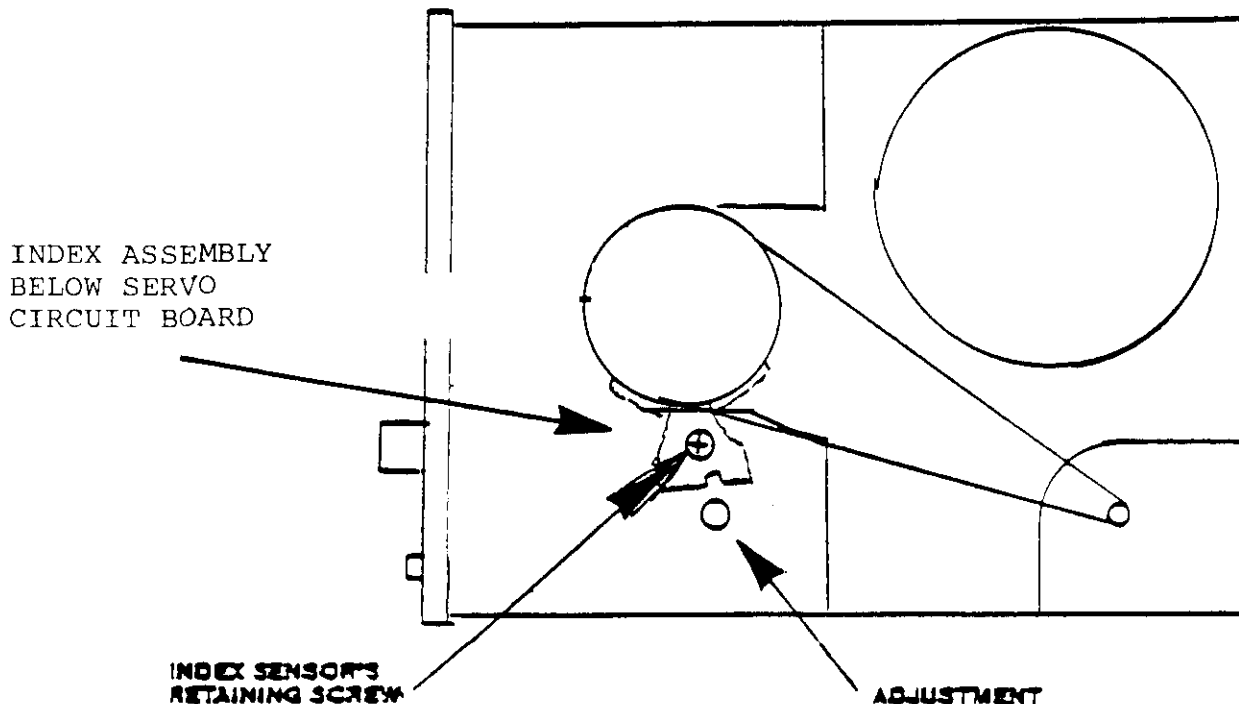

FIGURE 5-9
1. From the bottom of the chassis, loosen the index sensor's retaining screw counterclockwise one-quarter turn (Figure 5-9), through the access hole in the Servo circuit board.